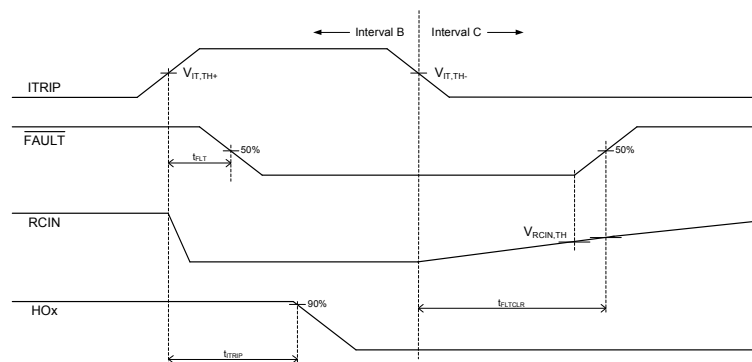

Figure 5: Detailed view of B & C intervals
During interval A of Figure 5, the HVIC has received the command to turn-on both the high- and low-side switches at the same time; as a result, the shoot-through protection of the HVIC has prevented this condition and both the high- and low-side output are held in the off state.
Interval B of Figures 5 and 6 shows that the signal on the ITRIP, GF, PCFtrip input pin has gone from a not active to an active state; as a result, all of the gate drive outputs have been disabled (i.e., see that HOx has returned to the low state; LOx is also held low), the voltage on the RCIN pin has been pulled to 0 V, and a fault is reported by the FAULT output transitioning to the low state. Once the ITRIP, GF, PCFtrip input has returned to the not active state, the output will remain disabled and the fault condition reported until the voltage on the RCIN pin charges up to $V_{RCIN,TH}$ (see interval C in Figure 6); the charging characteristics are dictated by the RC network attached to the RCIN pin.
During intervals D and E of Figure 5, we can see that the enable (EN) pin has been pulled low (as is the case when the driver IC has received a command from the control IC to shutdown); this results in the outputs (HOx and LOx) being held in the low state until the enable pin is pulled high.